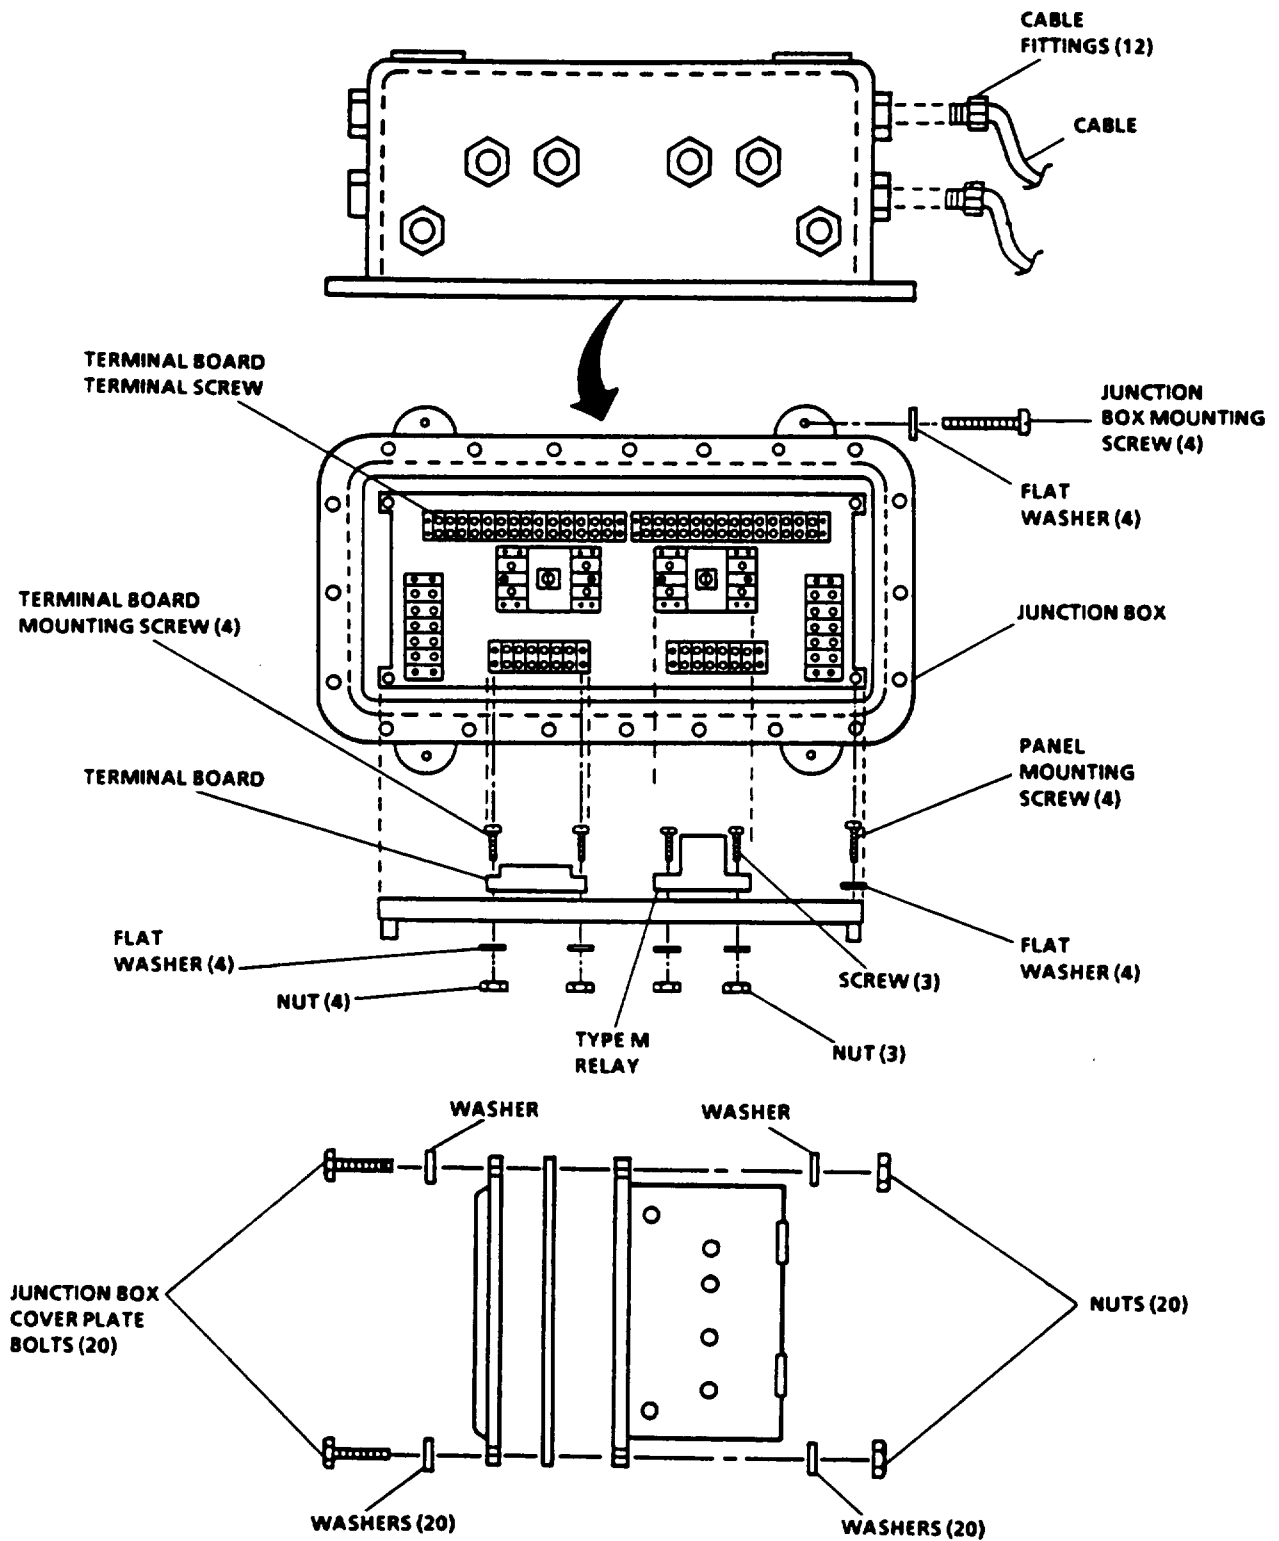

Figure 4-17. Distribution Box
3. Remove junction box. See figure 4-17.
1. Install junction box. See figure 4-17.
2. Install type M relay. See figure 4-17.
3. Install terminal board. See figure 4-17.
Install junction box assembly. See figure 4-17.